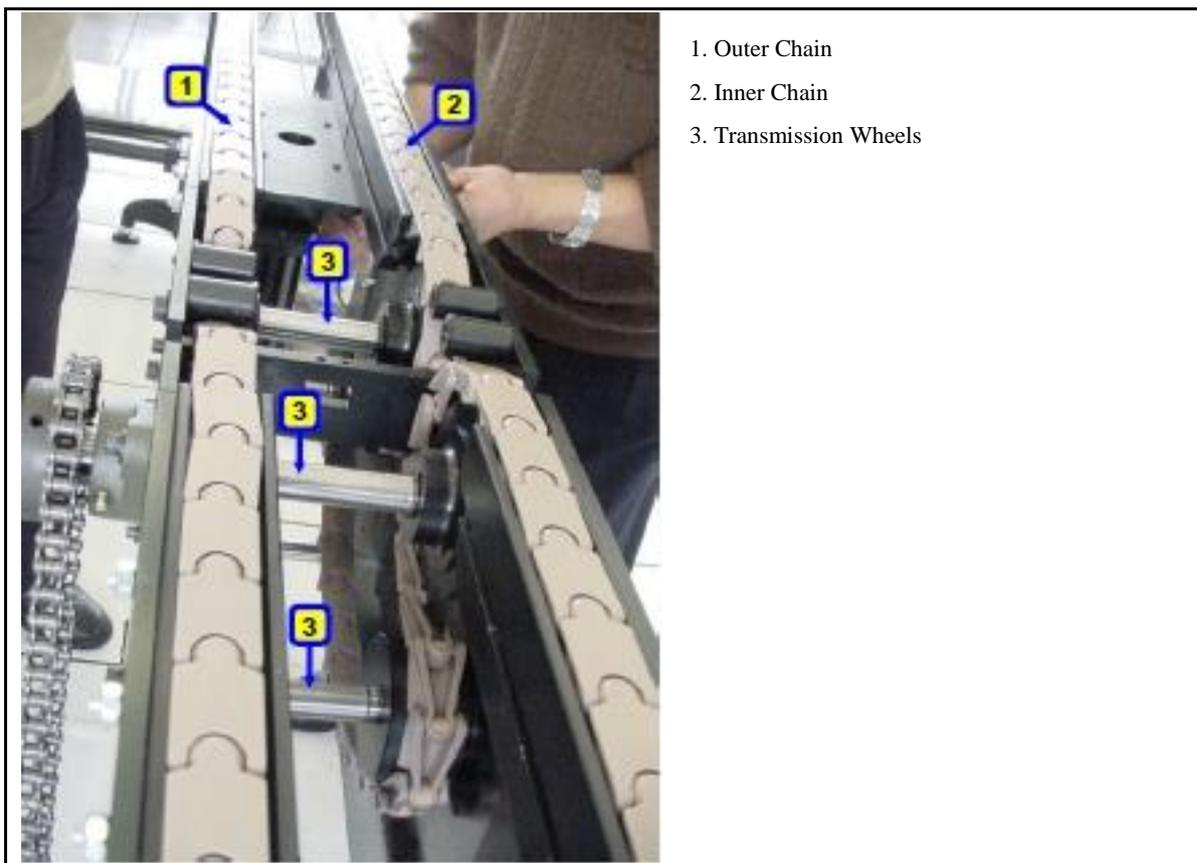

Figure 12: Threading the Chain through the Motor Unit
8. Insert the inner and outer chain into the rail and thread through the transmission wheels, by opening the clutch unit of the motor gear. After threading the chain through, shorten the chain to its correct length and connect the first and last elements to form a closed loop. (See Figure 12.)